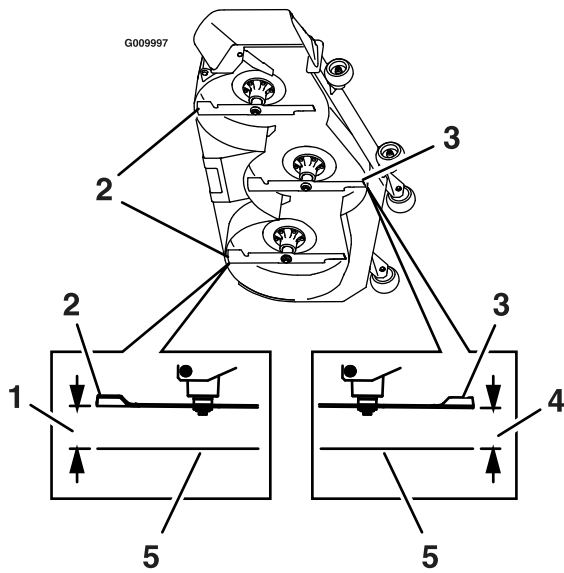

Figure 81
7. Measure from the level surface to the front tip of the center blade (Figure 81).